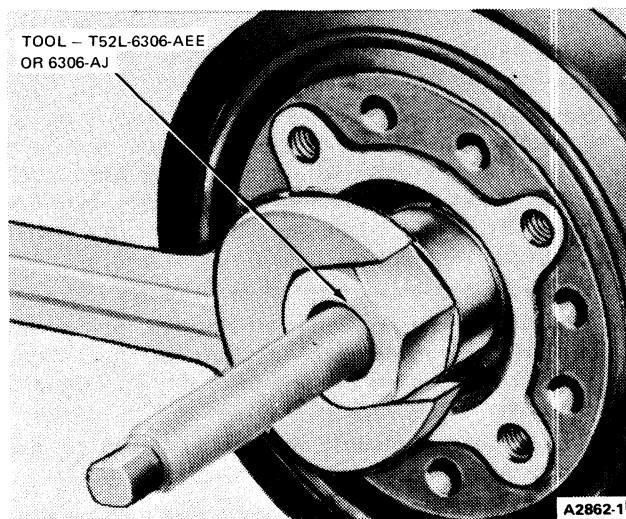

FIG. 30 Installing Crankshaft Vibration Damper
11. Line up the crankshaft vibration damper keyway with the key on the crankshaft. Install the vibration damper on the crankshaft (Fig. 30). Install the capscrew and washer. Tighten the screw to specifications. Install the crankshaft pulley.